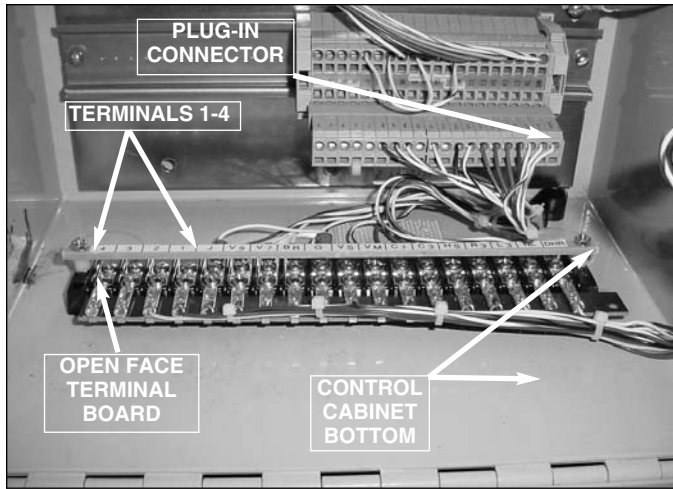

Figure 7.
10. Clean the bottom inside of the control cabinet removing any dust, dirt, debris, oil or grease film, and rust where the kits terminal board will attach to the bottom of the cabinet (See Figure 7).
12. Position the Open face terminal board onto the bottom of the control cabinet, locating the terminal board under the plug-in connector leaving enough room between the terminal board and back of the cabinet to allow for connecting wires to terminal 1- 4 (See Figure 7). Make sure that after the fanning strip from the control panel is connected it will not touch